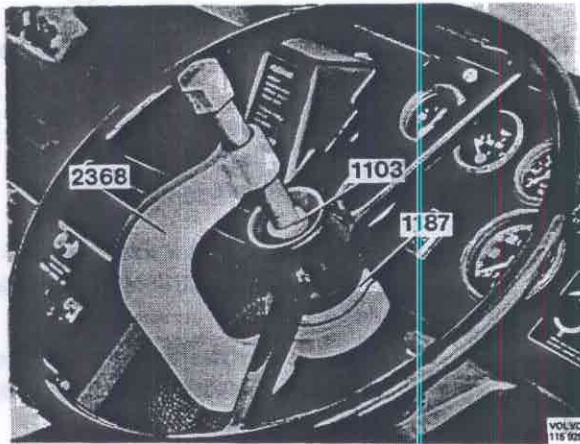

Fig. 64-9. Removing the steering wheel
3. Pull off the steering wheel with puller 2368, clamp 1187 and intermediate section 1103, Fig. 64-9.
3. Pull the steering wheel off with puller 2368, clamp 1187 and intermediate section 1103, Fig. 64-9. Remove the spring.